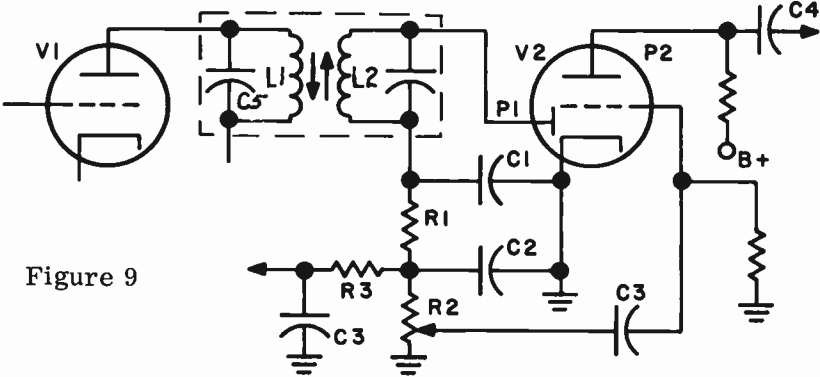

Figure 9
7. In order to improve the sensitivity of a receiver, we can add: (3)
8. Random noise in a receiver is not produced by: (3)
9. With reference to Fig. 9, what is this circuit a part of?
10. With reference to Fig. 9, P1 is the plate of the:
11. With reference to Fig. 9, R3, C3 is a part of the:
12. With reference to Fig. 9, which of the following would not happen if L1 were open?
13. With reference to Fig. 9, which of the following would occur if C1 were to open?
15. The carrier and one set of sidebands are eliminated in: (3)